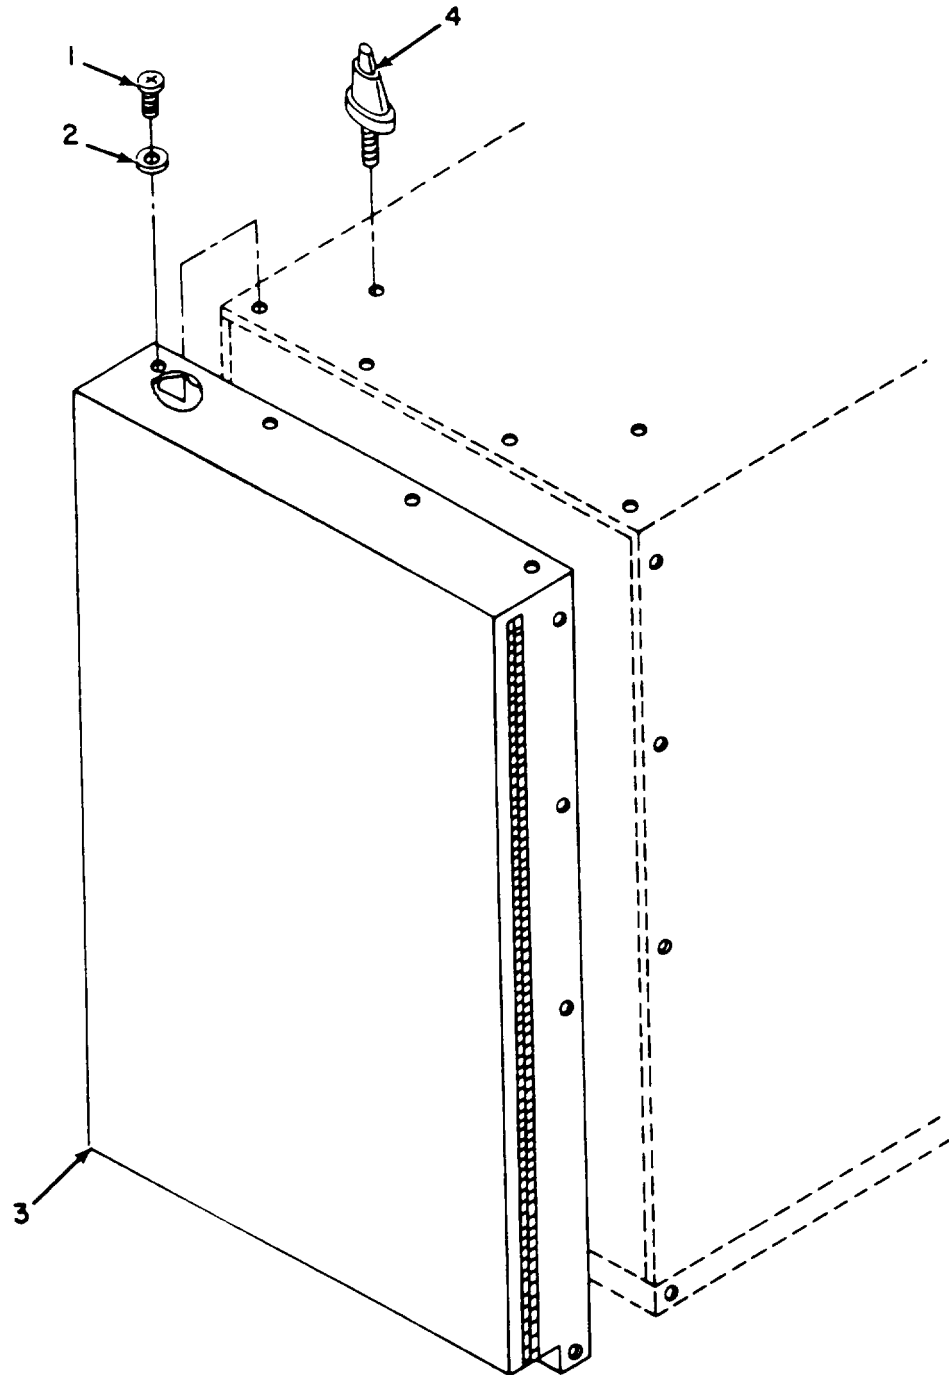

Fig. 4-5. Canvas Cover.
1. Canvas Cover. (See Figure 4-5).
(a) Install canvas cover (3) on top panel as shown in Figure 4-5.